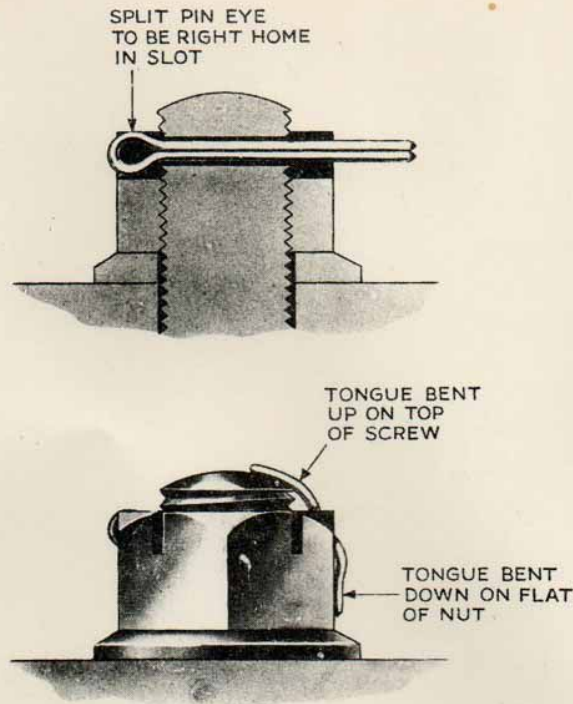

FIG. 3. FITTING SPLIT-PINS.
3. All split-pins should be fitted as shown in Fig. 3, unless otherwise stated.